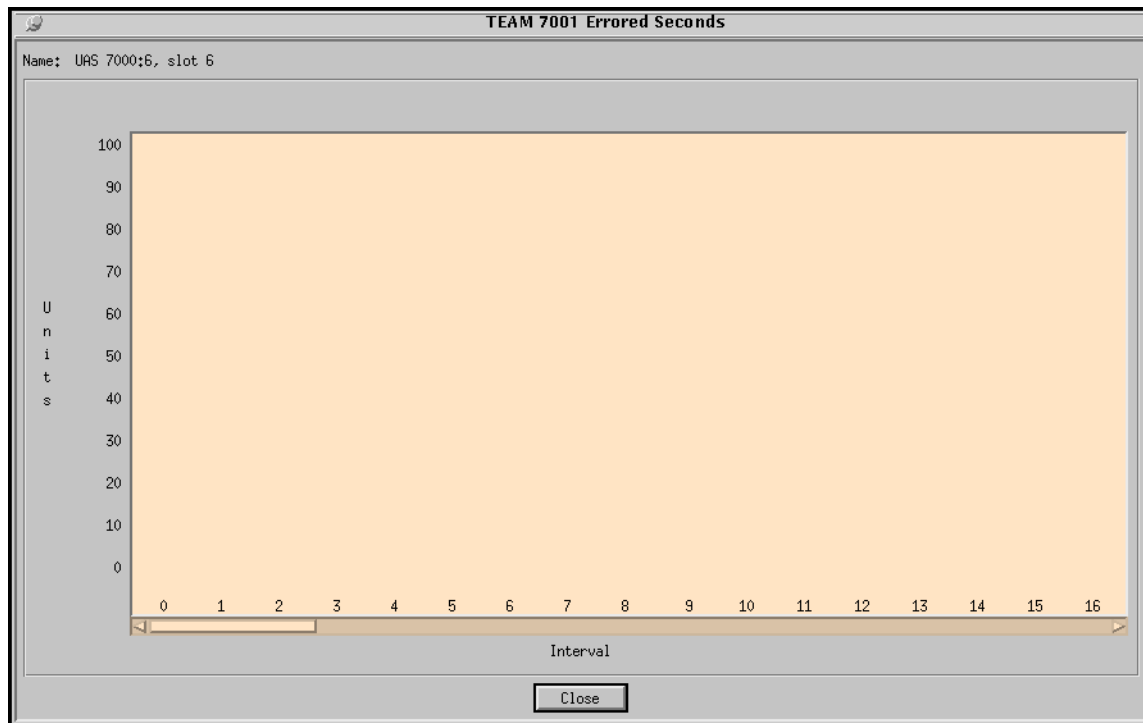

Figure 2-9 Errored Seconds (ES) Window
An errored second (ES) is defined as a second with at least one CRC error event. Figure 2-9 shows the errored seconds (ES) screen for network. The figures are the basic screens for all individual statistical error categories like UAS, SES, and so forth. Like all other graphs, the y-axis scale dynamically changes, depending on the maximum value of a certain interval.